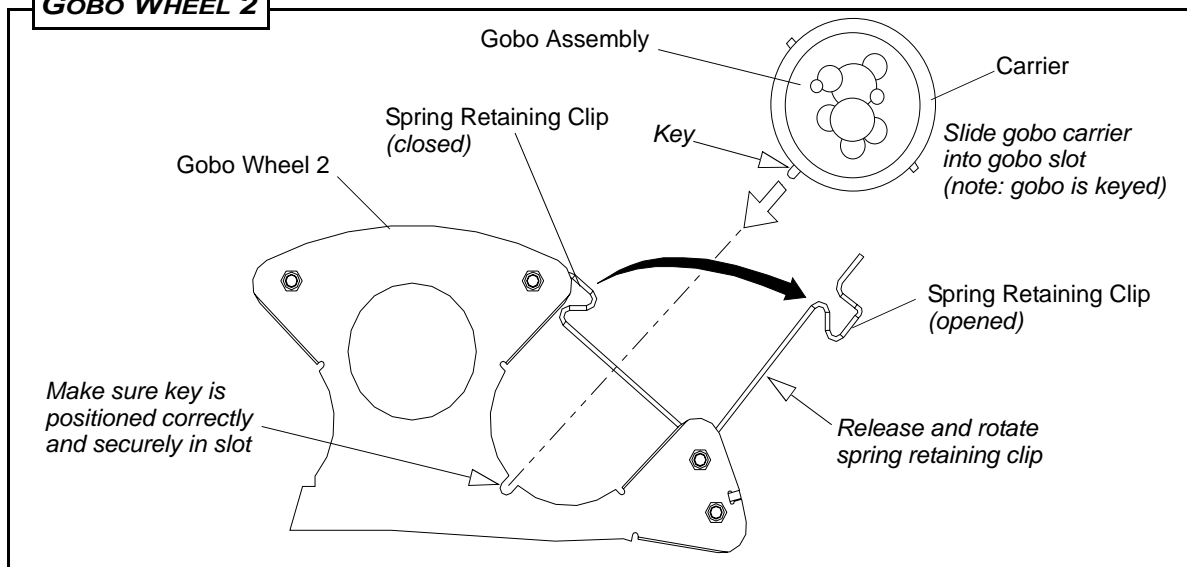

Figure 2-4: Replacing Gobos
- To access Wheel 1, remove bottom cover as shown in Figure 2-4.
- To access Wheel 2, remove top cover as shown in Figure 2-4.
- Release (open) spring retaining clip as shown in Figure 2-4.